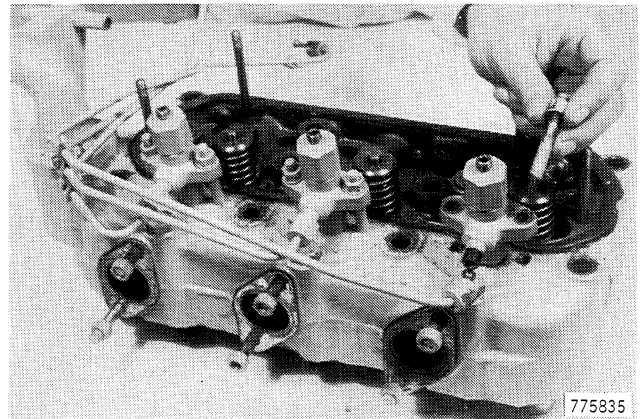

Figure 91
5. Remove the nuts, lock washers, and studs, Figure 91.